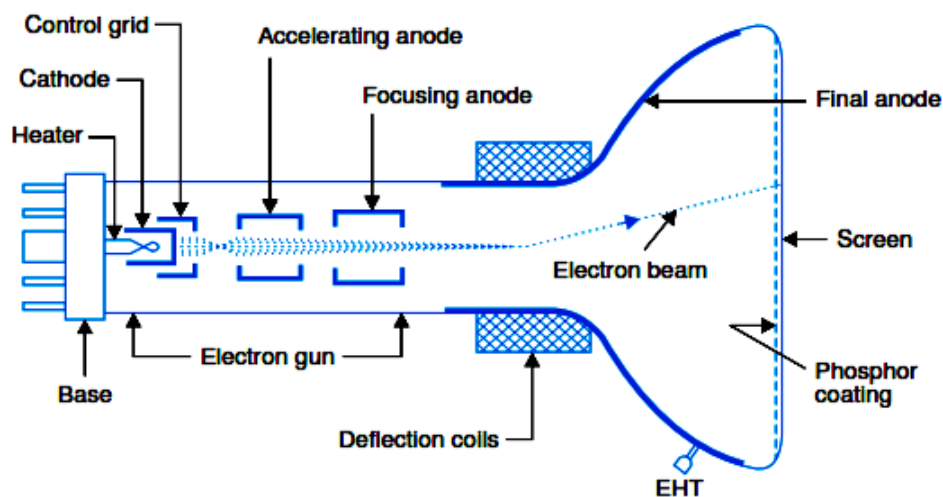

Fig. 12.11 Elements of picture tube
4. The picture tube shown in Fig. 12.11 is very similar to the cathode-ray tube used in an oscilloscope. The glass envelope contains an electron-gun structure that produces a beam of electrons aimed at the fluorescent screen. When the electron beam strikes the screen, light is emitted. The beam is deflected by a pair of